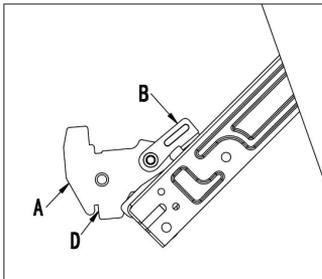

Fig. 4
- Open the door completely and lift the 2 levers "B" (fig.4);